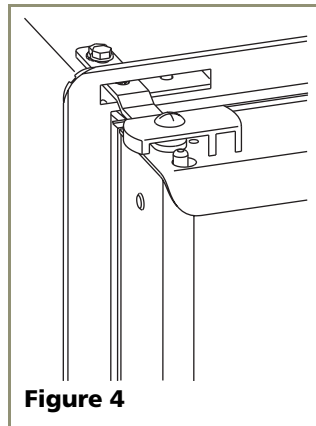

Figure 4
1. Remove travel pin from cabinet (two screws). See **Figure 4**. Slide assembly through flange and set aside to be used later.